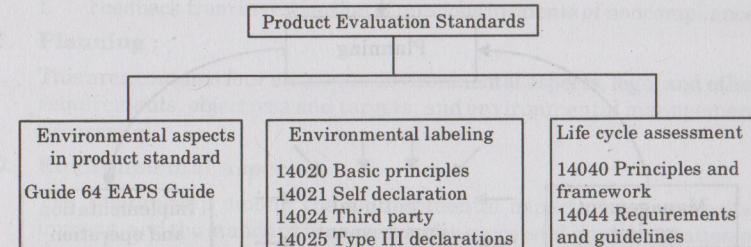

Fig. 5.15.2. Product evaluation standards
1. These standards are under development and are shown in Fig. 5.15.2.